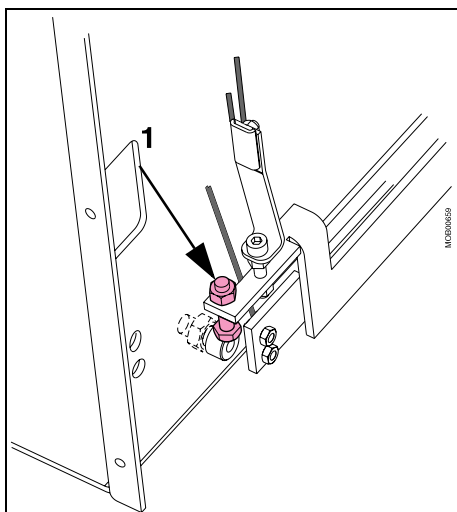

Fig. 60: Wheel brake 1
- Adjust the screw (Pos. 1/Fig. 60 / p. 69) so that the brake arm moves back just far enough to release the brake (there should be no grinding noise when the system moves). Secure this position with the lock nut.